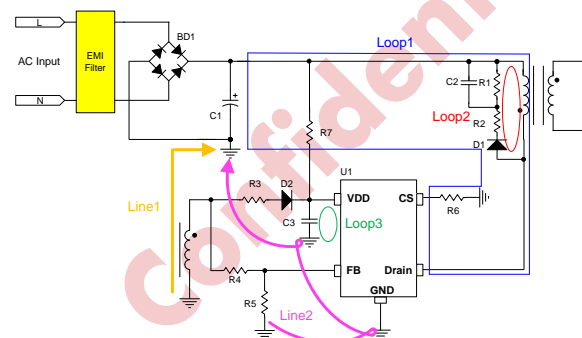

Fig 6
PCB design has a significant impact on the performance of power supply. It is recommended to refer to Figure 6 and Figure 7 when designing primary-side circuit.
4. The ground node of auxiliary winging should be connected directly to the negative node of the bus capacitor (Line1 as shown in Fig.6)
5. VDD capacitor C3 and FB pull-down resistor R5 should be connected directly to the IC GND pin firstly, and then connects them to the negative node of the bus capacitor with a single point (Line2 as shown in Fig.6)